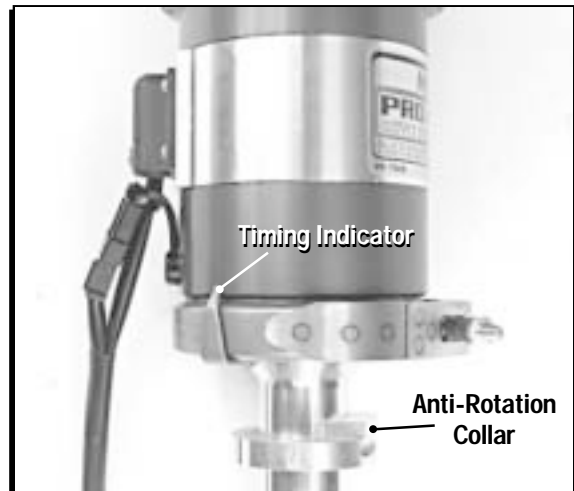

Figure 1 Positioning the Chevrolet Generator.
**Note:** On Chevrolet applications, it is recommended to locate the wiring harness of the generator towards the left side injector stack (Figure 1). This also puts the timing indicator of the magneto in a position that should be easy to view. Also position the band clamp's retaining screw so it points to the left and is in the back of the magneto, close to the firewall. On Ford and Chrysler engines, rotate the base until the pointer is easy to view.